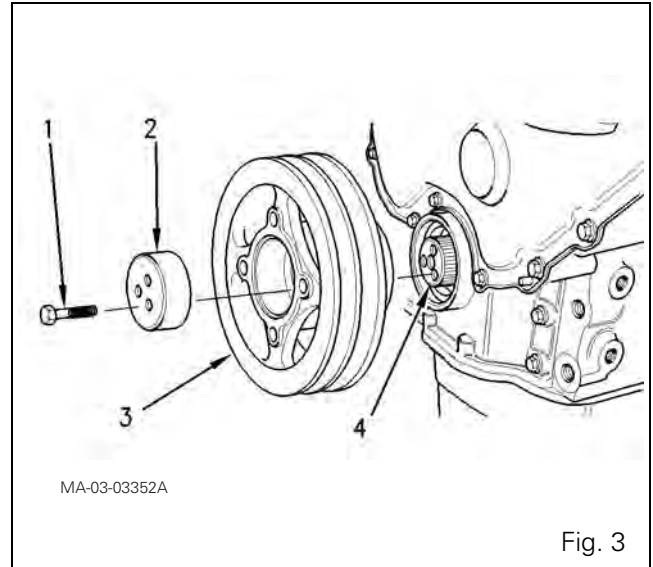

Fig. 3
12. Take out the three screws (1) and the spacer (2) (Fig. 3).
13. Remove the crankshaft pulley (3) (Fig. 3).